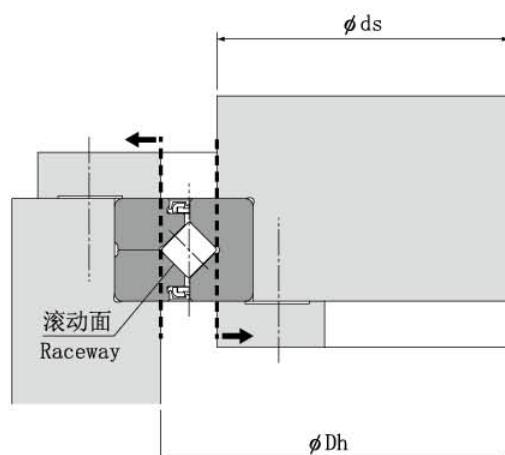

图1 (Fig 1)
(图1)
When designing the shoulder, ensure that the shaft shoulder diameter (ds) and the housing shoulder diameter (Dh) are outside the raceway area. (Fig.1)
4. Fasten the presser bolts in three to four steps from loose to fully fastened by tightening the bolts in a diamond pattern, as shown in Fig.1. When tightening the separated inner or outer ring, reciprocating the single piece outer or inner ring approximately four to five times (about 90°) will correct misalignment between the ring and the body.